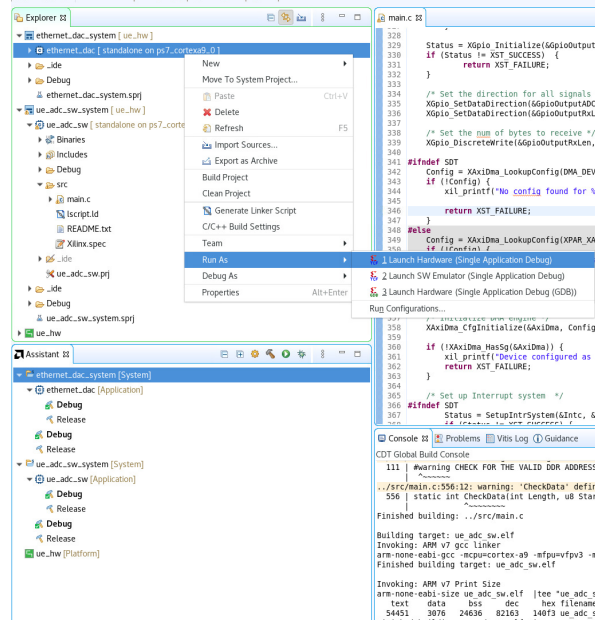

Figure 4: Running the application project in Vitis
5. Program the board with the software by running the application project as shown in Figure 4. Once the board is correctly programmed, prints should appear on the serial terminal that shows a successful TCP connection. In case Vitis is being run from a remote server, follow the steps mentioned in Appendix A.